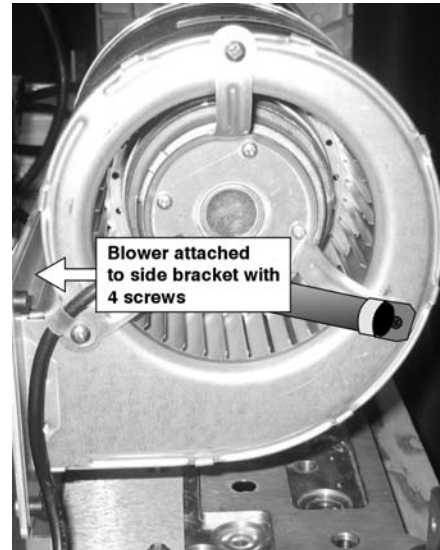

Figure 21. Removing the Lamp Blower in 1200W Models
In 1200W models, the blower is mounted directly to a side bracket by four (4) screws. Remove these four (4) screws and lift the blower out of the projector. (Figure 21.) Before removing the airflow sensor, measure how deep it is set in the blower by measuring the distance from the end of the sensor to the mount. This will help you when installing it into the new blower.